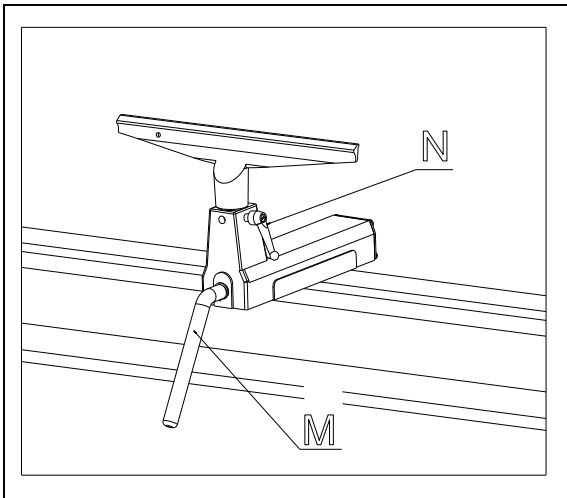

Fig.7
9. Tool Rest Body Lock Handle: (M, Fig. 7) Locks the tool rest body in position. Unlock handle to position the tool rest in any location along lathe bed. Tighten handle when properly positioned.
10. Tool Rest Lock Handle: (N, Fig. 7 Locks the tool rest in position. Unlock the handle to position tool rest at a specific angle, or height. Tighten handle when properly positioned.